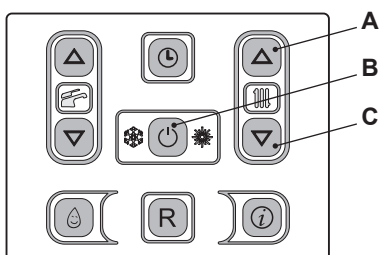

Figure 9.5
- 1 To enter in the parameters setting mode press sequentially the 3 keys "A - B - C" (Figure 9.5) and hold in for 10 seconds at the same time until **P01** are displayed on the display, indicating the entry in the "parameter 01" and the value of parameter (Figure 9.6).